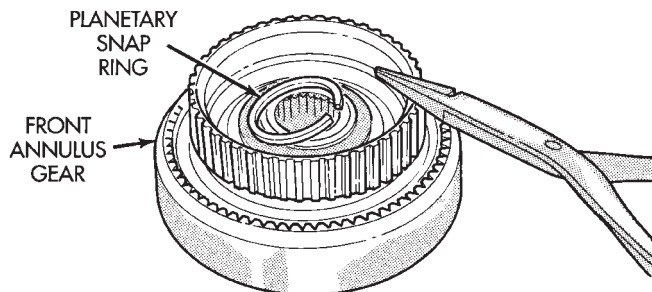

Fig. 146 Front Planetary Snap Ring Removal
(3) Remove snap ring that retains front planetary gear in annulus gear (Fig. 146).